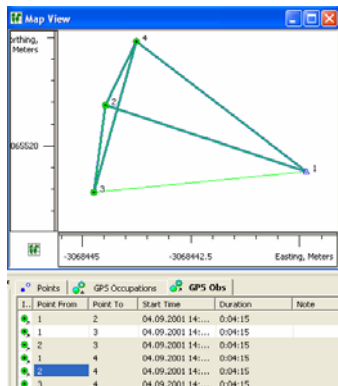

Figure 6-33. Select Vectors the Form a Loop
2. On the main screen (Map View or *GPS Observations* tab) select static GPS observations that form a loop(s) (Figure 6-33).